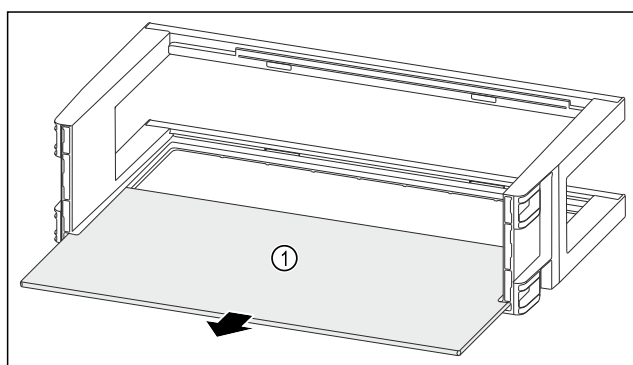

Fig. 131
- Remove the shelf *Fig. 131 (1)*.